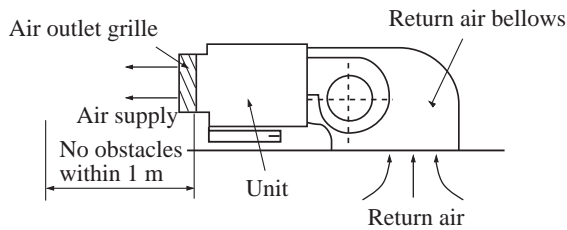

Figure 4
- 1 When installing the cassette hind type indoor unit, a specially designed return air bellows shall be installed, as shown in Figure 3, Figure 4.